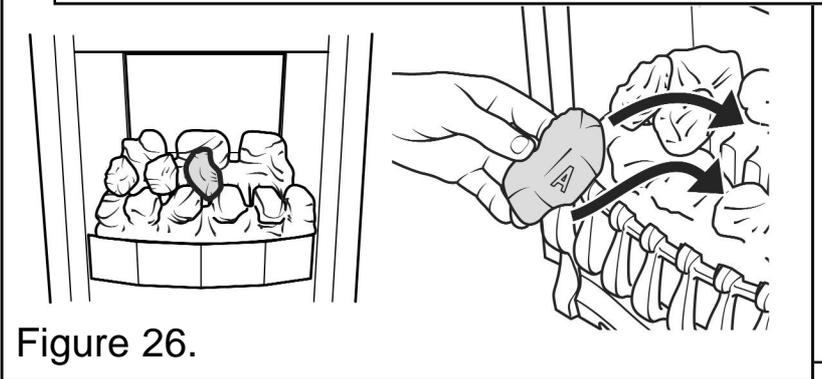

Figure 26.
5. Place a type “A” coal between the front and rear base coals with the letter “A” upright. The top of the coal should rest against the centre coal of the rear base coal as shown in figure 26.